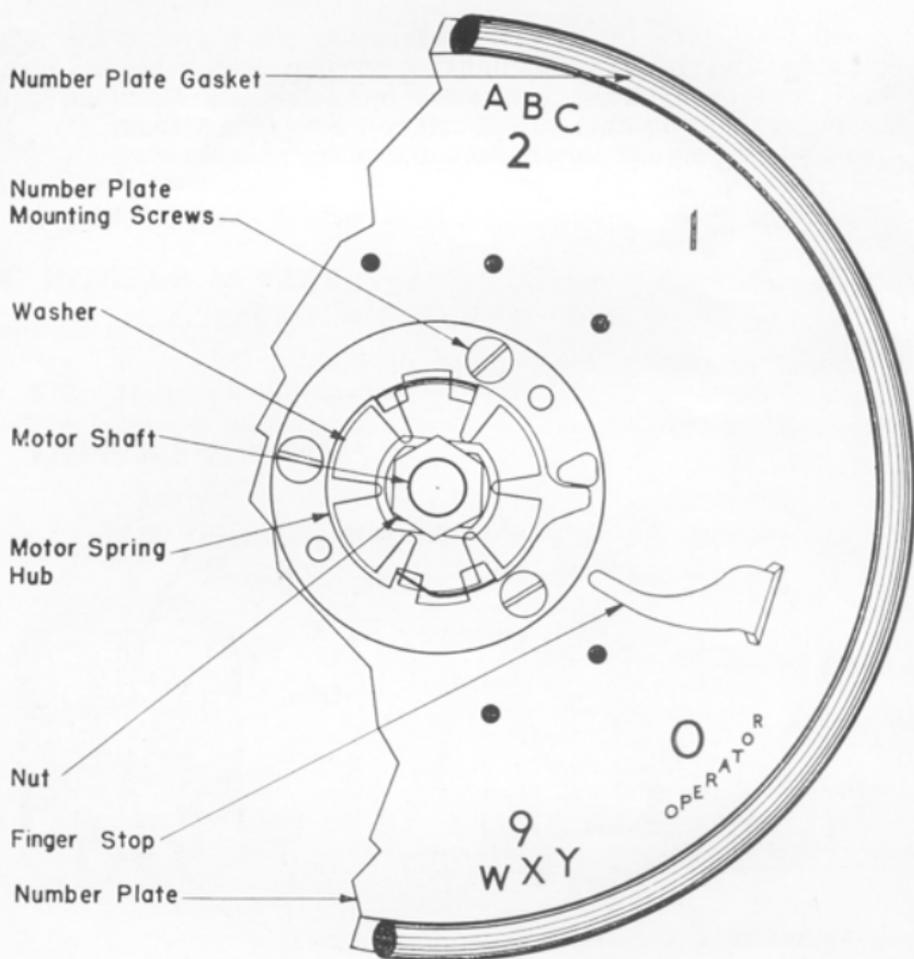

Fig. 3—7-Type Dial
8.01 Replacement number plate shall be the laminated structure type. These number plates may be identified from the back, by the two-tone material. Assemble to the frame with special P-174053 RHMS (shoulder-type) screws. Refer to Fig. 3.